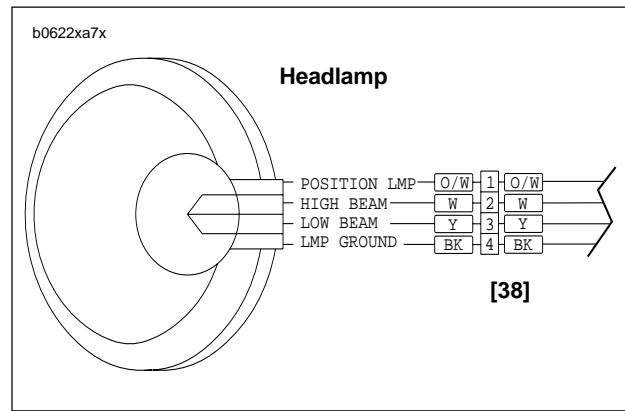

Figure 7-39. Headlamp Connector [38]
3. See Figure 7-39. Cut as many cable straps as necessary to access headlamp connector [38] along right side frame tube. Detach connector [38] from wiring harness.
2. See Figure 7-39. Route headlamp wire harness between front forks and along right side frame tube. Attach connector [38] to wiring harness. Fasten wiring harness to frame with **new** cable straps.